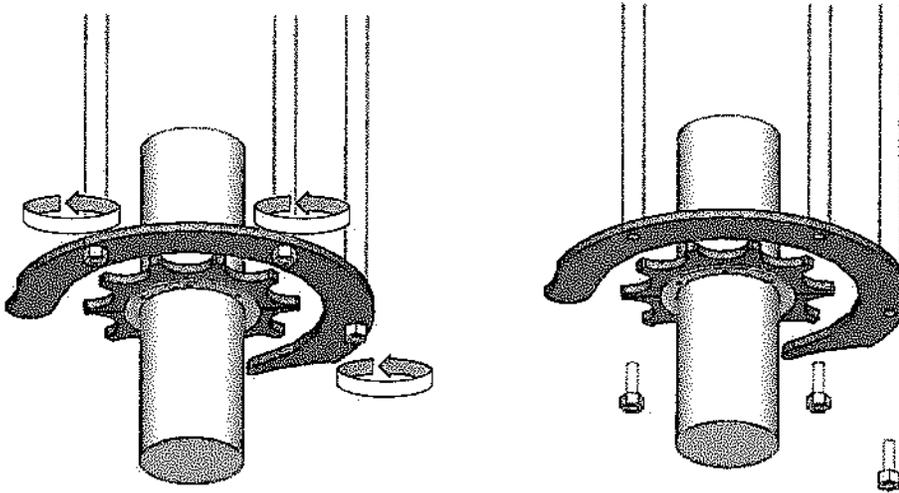

fig.30
- Remove the conveyor lock screws (fig.30)